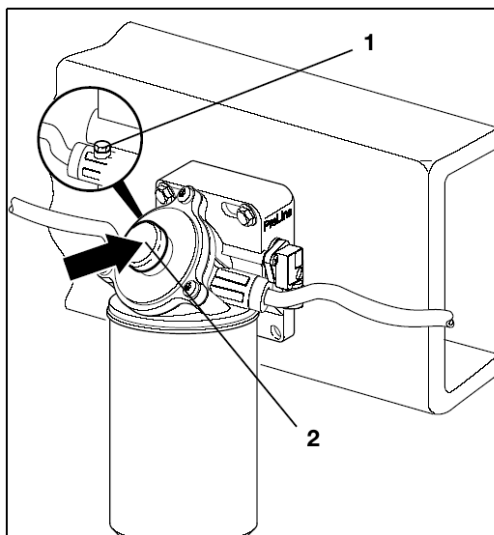

Figure 2-15 Air removal of primary fuel filter
**Note:** When replacing the primary spin-on filter or reinstalling fuel pipe, remove the air in the primary filter (see figure 2-15).
- ① Shut the engine down.
- ② Dismantle the bleeding screw plug on the primary fuel filter.
- ③ Pumping fuel with hand pump until only fuel comes out from the bleeding screw plug.
- ④ Retighten the bleeding screw plug.